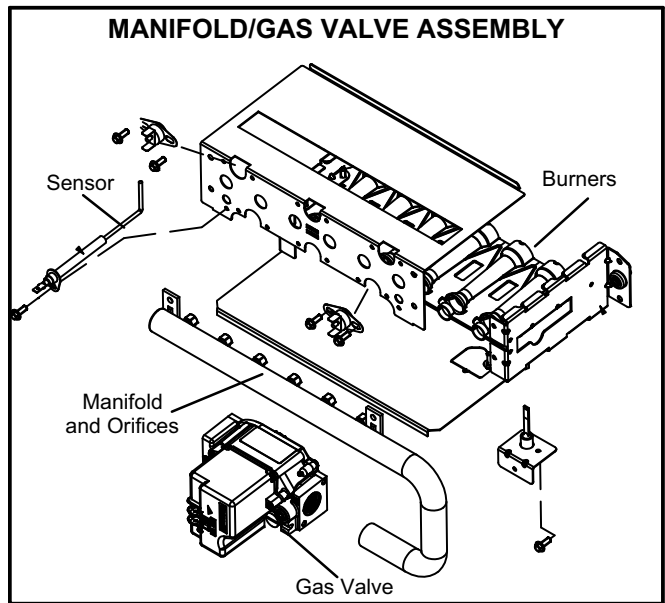

FIGURE 3
- 5 - Replace the burner orifices with the provided gas orifices. Torque to approximately 35 in-lbs. **Do not** use sealant on orifices. Figures 3 and 2 shows manifold/gas valve assembly.